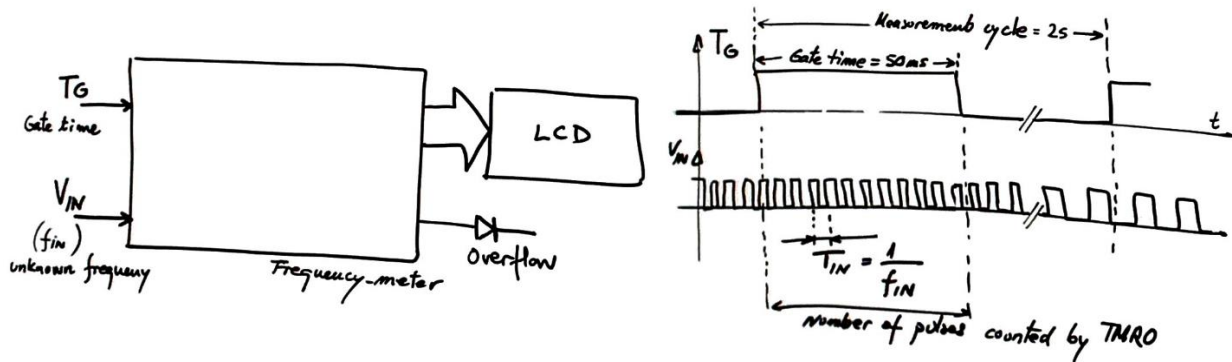
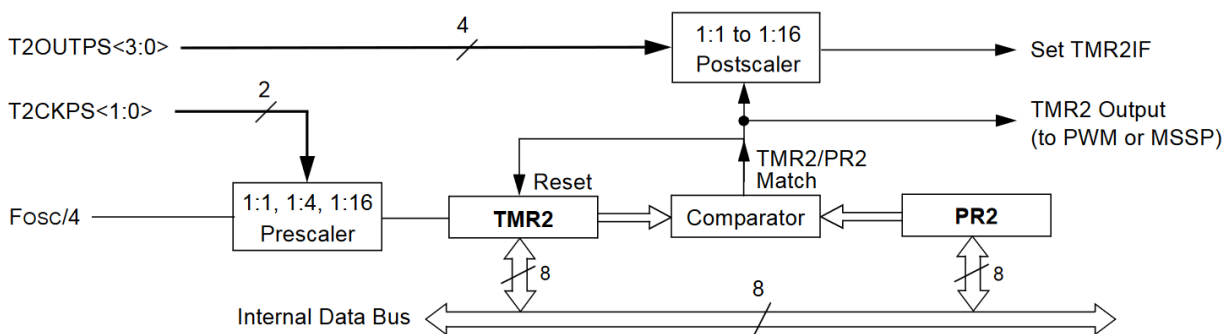

Fig. 1.
Fig. 3.
- Use TMR2 peripheral represented in Fig. 3 to replace the external gate time $T_G = 50\text{ ms}$ pulse in Fig. 1. Explain how to plan and organise the software and what functions are affected. $F_{OSC} = 12\text{ MHz}$.